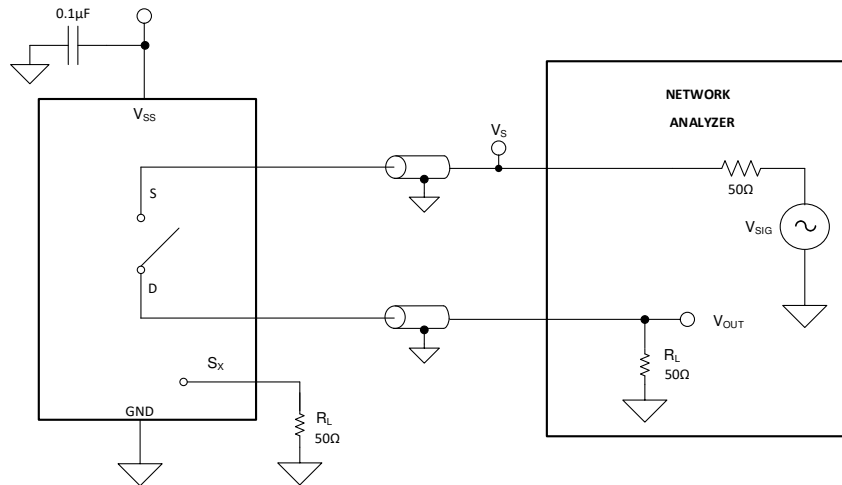

图 7-9. Off Isolation Measurement Setup
Off isolation is defined as the ratio of the signal at the drain pin (D) of the device when a signal is applied to the source pin (Sx) of an off-channel. 图 7-9 shows the setup used to measure, and the equation used to calculate off isolation.